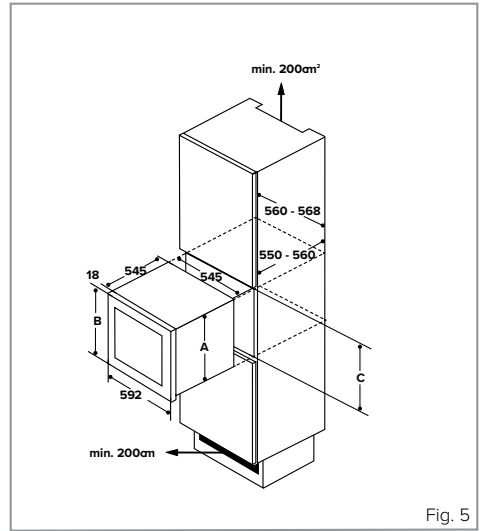

Fig. 5
***If installing an FWV601 next to an oven or compact, then both appliances must have their own individual and independent ventilation system (as per fig. 5).**